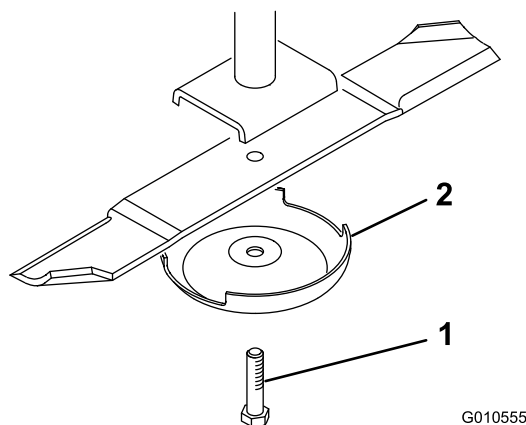

Figure 32
2. Grasp the end of the blade using a rag or thickly padded glove. Remove the blade bolt, anti-scalp cup, and blade from the spindle shaft (Figure 32).